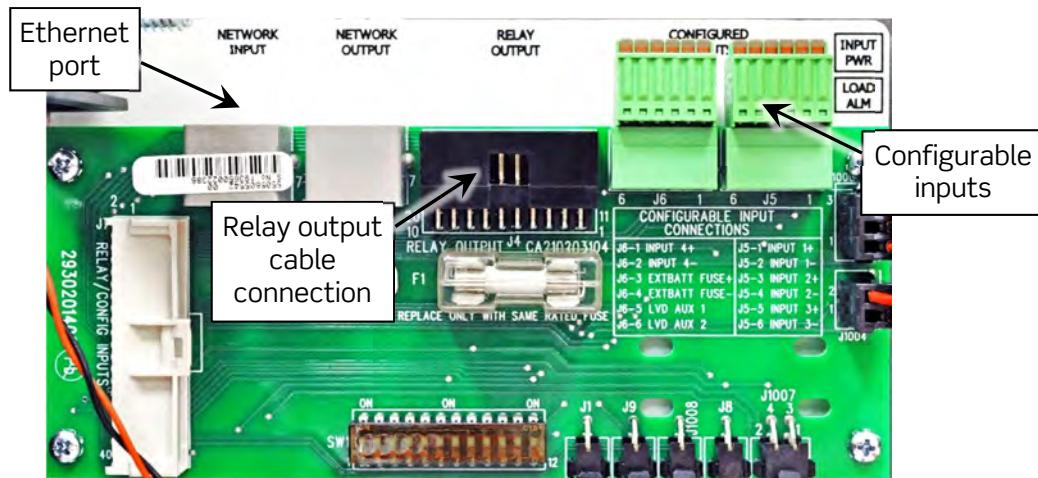
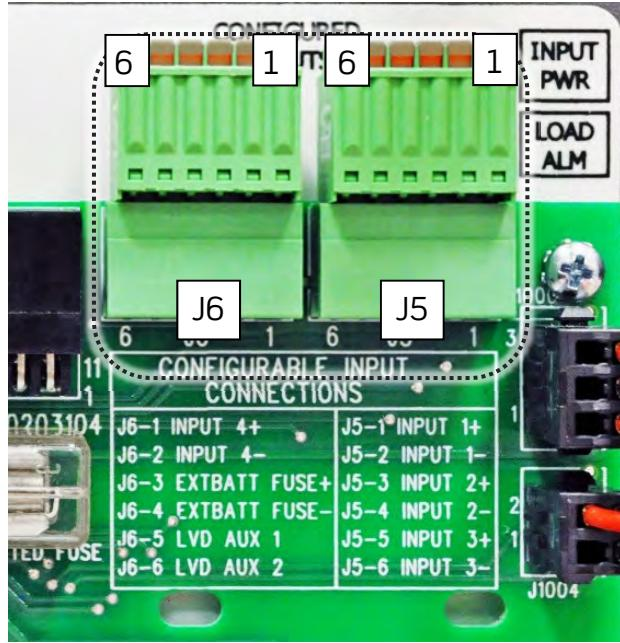

Figure 30 – Controller Connection Ports
Figure 32 – Configurable Input Connections
Before making controller connections, refer to “Controller Specifications,” on page 12, for information regarding the Smartpack S controller. Most controller connection ports are located on the connection board, found on the right (front) side of the distribution (see Figure 30).
1. Route the alarm cable from alarm transport equipment to the **Relay Output** port on the front right side of the distribution (see Figure 30).
1. Route the Ethernet cable from your network to the **Network Input** port on the front right side of the distribution (see Figure 30 on page 42).
Battery temperature probe connections are made to the terminal block(s) located on the right (front) side of the distribution (Figure 30, page 42, and Figure 32, below). Before making battery temperature probe connections, refer to the section “Controller Inputs,” page 13.